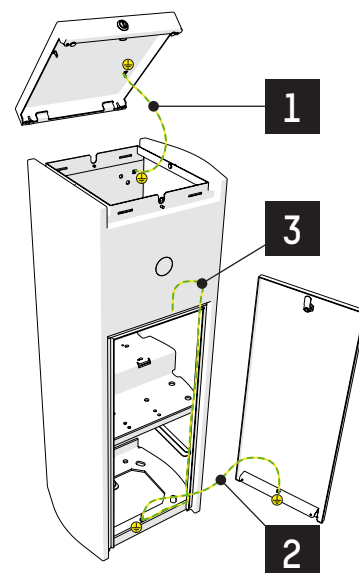

Fig. 23 - Equipotential connections
- Check the various connections of the equipotential bonding connections shown in Fig. 23 ;